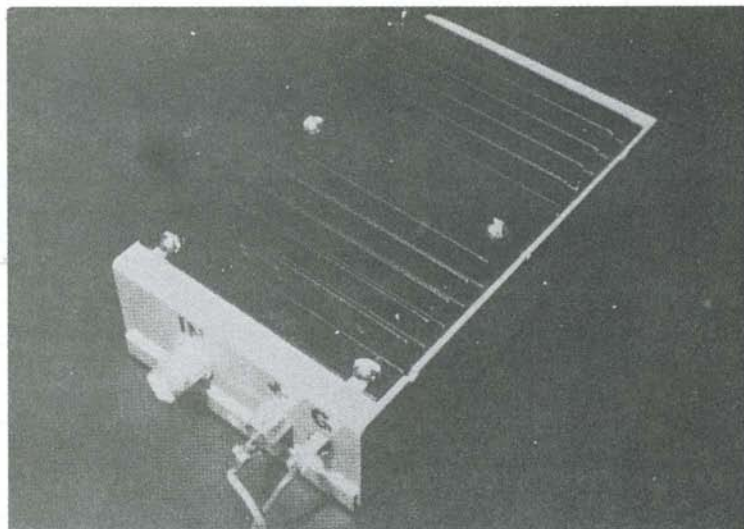

Fig. 6-63. Amplifier, top view.
17. The amplifier is now complete (see Fig. 6-63).